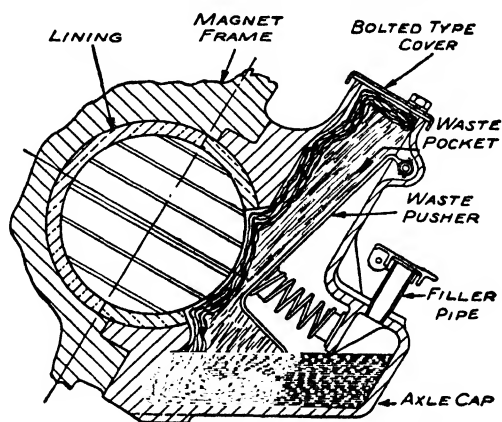

Fig. 14. Large Oil Capacity Axle Cap with Waste Pusher for Traction Motor
**Motor Axle Bearings.** Cross-sectional view of an axle cap similar to this type of bearing is shown in Fig. 14.
| Axle Bearing .....                         | Fig. 14 |